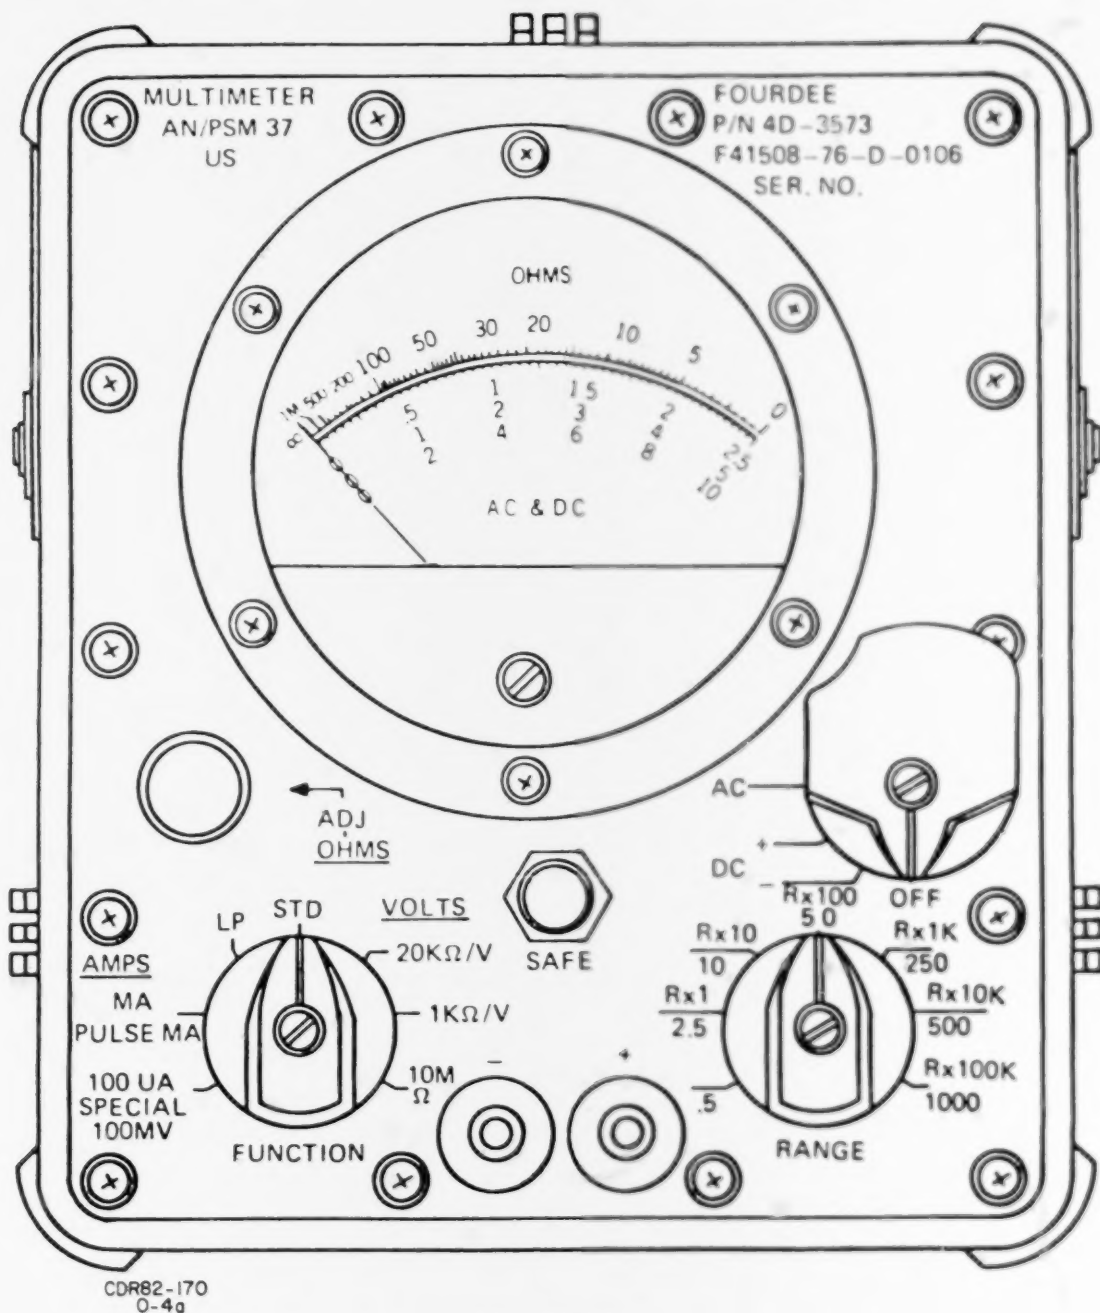

Figure 4-1. PSM-37 multimeter
Multimeter Control Knob Setting and Meter Scales. The AN/PSM-37 multimeter, one of which is shown in figure 4-1, is a typical general purpose, precision test instrument. It is used for measuring volts, amperes, and ohms. The PSM-37 can be used to check alternating current (AC), direct current (DC), and AC and DC voltage which are read on the lower scale. Use the upper scale to read OHMS.
The polarity switch, located on the right side of the meter in figure 4-1, is used to turn the multimeter on and off. This switch also sets the meter to test DC +, DC -, or AC. The + and - signs mean the polarity that must be applied to the red test lead when you make DC measurements so that the meter pointer will move up the scale to the right. If the pointer moves to the left, just change the polarity switch to the other DC setting or reverse the test leads in the circuit. When you make ohms check, the + and - will mean the output polarity of the red lead. The shape of the polarity switch knob will not allow the cover for the meter to be put on unless the switch is placed in the OFF position.
Setting Up a Multimeter for Voltage Checks. Electrically controlled hydraulic components may be powered by either AC or DC voltage. Let's assume that the components being checked operate on 28-volt DC. Using figure 4-1 in this case, set the FUNCTION switch to 1KΩ/v position. Next, set the RANGE switch to the desired range, which in this case would be the 50-volt
Setting Up the Multimeter for Ohmmeter Checks. Refer again to figure 4-1. When the function switch is set on OHMS STD, the meter pointer is referenced to the top scale. Resistance values are expressed in ohms. The resistance scale may seem confusing at first because it reads just backward from the other scales. However, a little time spent studying the scale will clarify this matter. When there are many ohms of resistance, only a little current will pass. This causes only a small movement of the pointer. When setting up the multimeter for ohmmeter checks, you first set the function switch to OHMS STD. Next, set the range switch to the value you estimate is enough to cover the resistance in the circuit. Remember, RX is the resistance times the value selected. (This information can be obtained from the applicable technical order.) Next, insert the test leads into the input jacks. Touch the test leads together so you can zero the meter. Gradually rotate the OHMS ADJ knob until the pointer lines up with the zero mark on the resistance scale. After zeroing the meter, you are ready to make your ohmmeter checks.